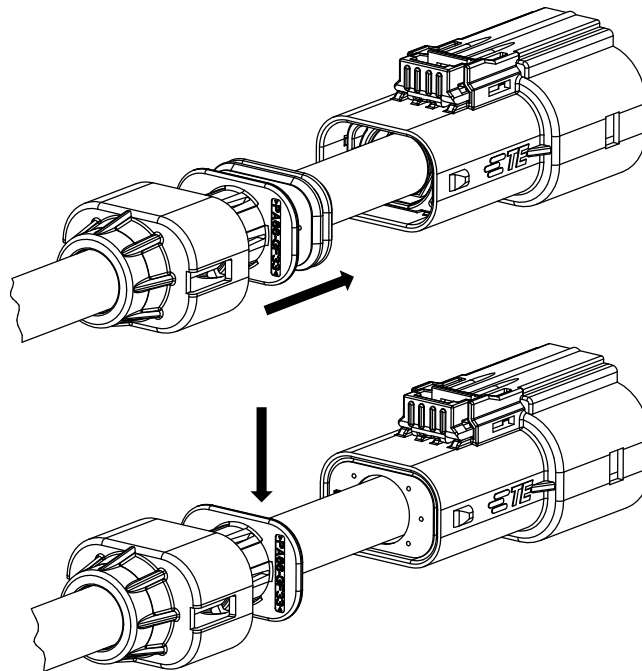

Figure 17
16. Slide the cable seal forward on the cable and into the cable exit end of the connector assembly until it stops against the spacer as shown in Figure 17.